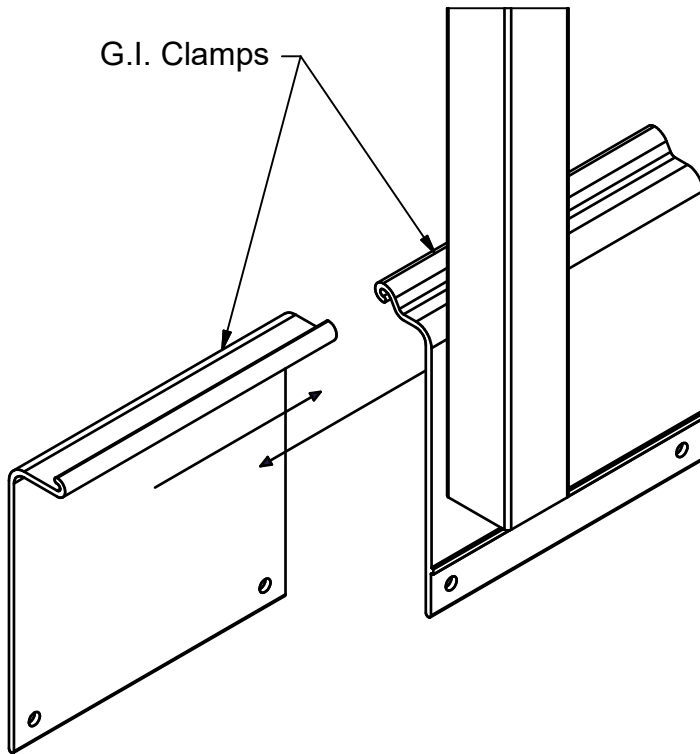

FIG. 1
- Before attaching the G.I. Clamps to the cradle beam, slide the clamps together so the ends are flush with each other. See Fig. 1